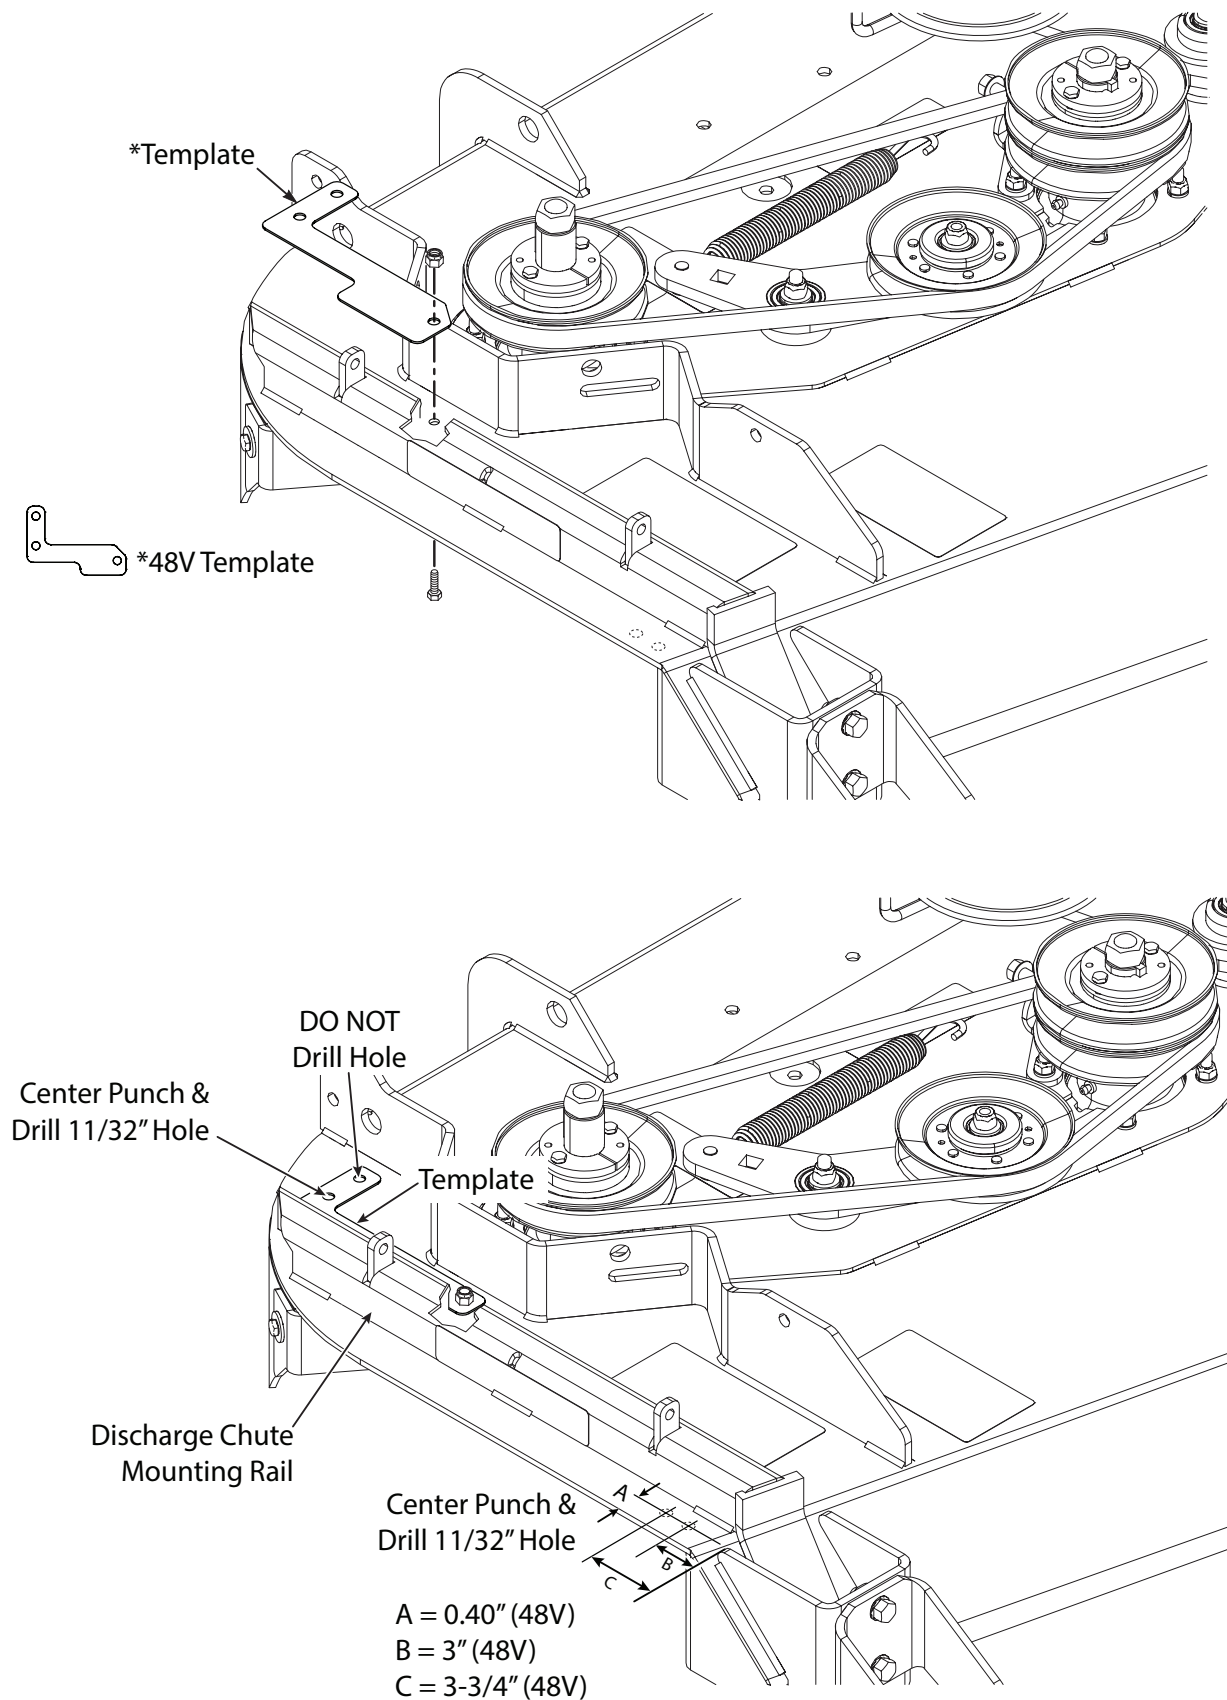

Figure 3-4. Locating and Drilling the Mounting Holes for STC/STCII/SCZ-48V
10. Install one (1) 5/16-18 x 3/4" bolt and one (1) 5/16-18 elastic stop nut. Do not tighten the hardware.
11. Install the template to locate the mounting hole for the lever assembly. Secure to the cutter deck using the turbo baffle mounting hardware removed in step 5. See Figure 3-4, Page 8.
12. Hold the template against the discharge chute mounting rail and tighten the hardware. See Figure 3-4, Page 8.
13. Using the template as a guide, center punch and drill one mounting hole as indicated in figure 3-4 using an 11/32" drill bit. Do Not drill the second hole provided in the template. See Figure 3-4, Page 8.
14. Carefully lay out the remaining mounting holes for the front hinge bracket in the cutter deck. See Figure 3-4, Page 8.